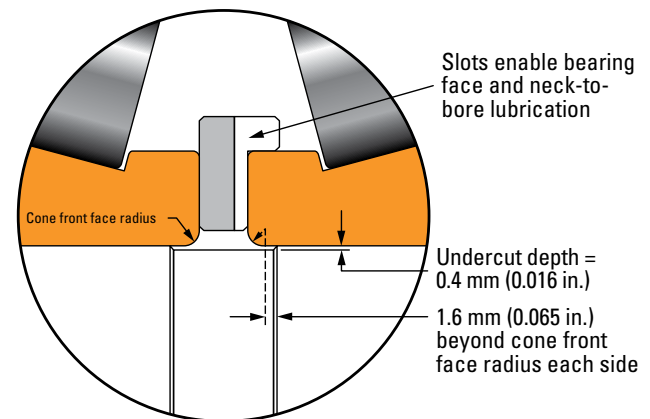

Fig. 72. Roll neck undercut at center of bearing assembly (applies to loose-fit assemblies only).
6. Roll neck undercuts: To accommodate potential wear, an undercut is required on the roll neck. The undercut depth is typically 0.8 mm (0.032 in.) on diameter and extending 1.6 mm (0.063 in.) beyond the tangency points of the front face radius beneath the cone spacer (fig. 72) and 3.2 mm (0.125 in.) beyond the tangency point at the outer cone face.
8. Retaining ring: The retaining ring is keyed to the roll neck and sometimes includes an O.D. shoulder so that it will remain with the chock and bearing assembly when removed from the roll neck (fig. 72). The suggested fit of the retaining ring on the roll neck is similar to the fit used for the TQOW cone fitting practice.